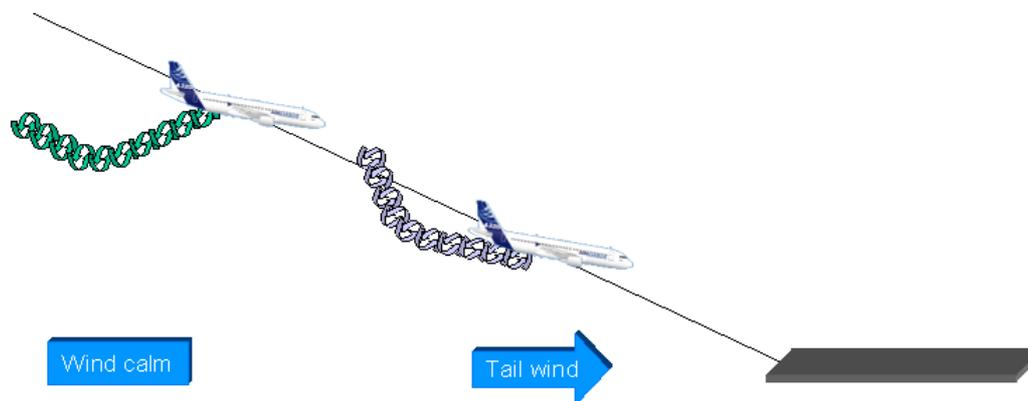

Figure 3
- During the final descent, a tailwind can bring wake vortices back to the glide path (**Figure 3**).